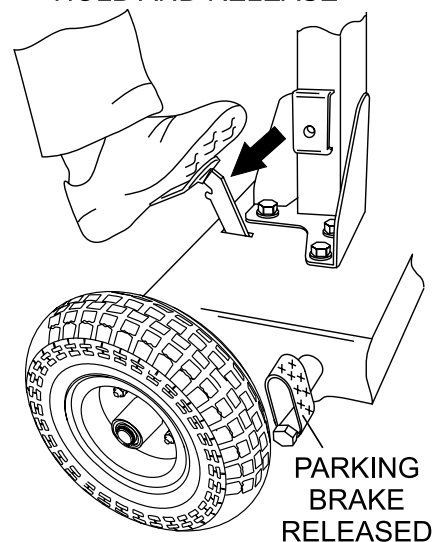

Figure 22. Parking Brake (Released Position)
8. Press down on the top of the brake pedal (Figure 22) and hold, then release. This action will disengage the brake mechanism and allow the GB43LED to be moved.